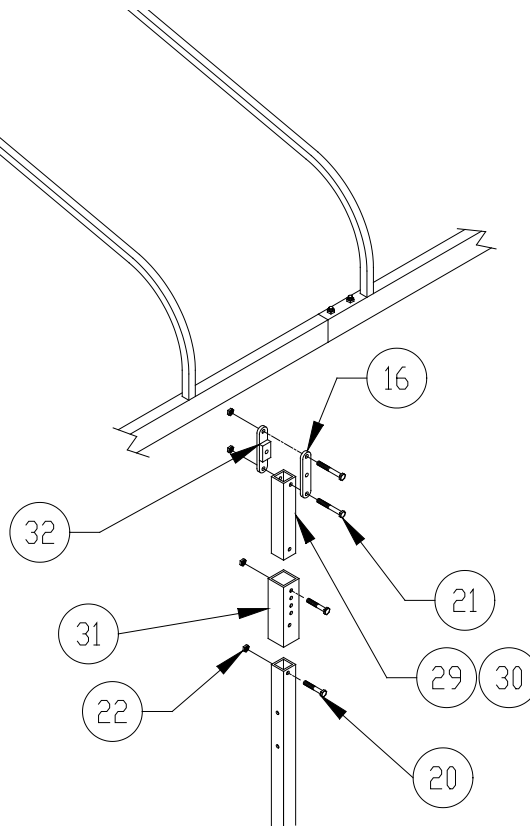

Figure 2-1.
1. Refer to **Figure 2-1**. Attach canopy outer tube detail 10 to each vertical leg on the frame. Use fasteners detail A & G.